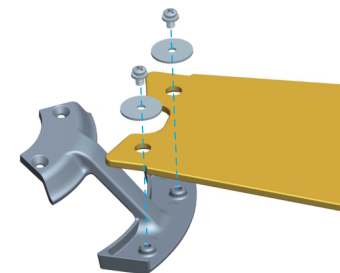

Fig 1.1
1.1 Locate 10 blade attachment screws and washer in the hardware pack. Secure each blade to the blade bracket using the blade screws and washer as shown in Fig 1.1.